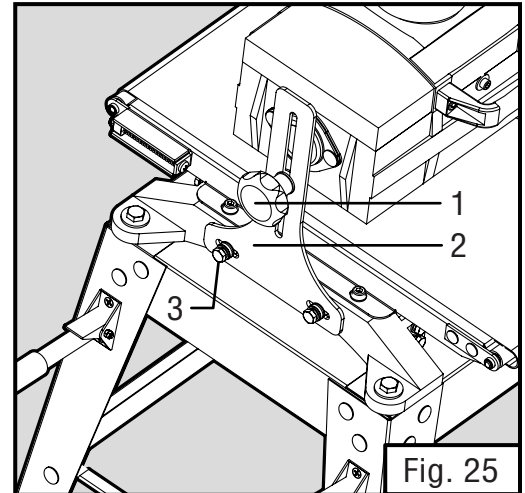

Fig. 25
## CONVEYOR FEED BELT REPLACEMENT (FIG. 25 & 26)
3. Unscrew and remove the elevation lock knob (Fig. 25 - 1) and flat washer from the side support frame (Fig. 25 - 2). Then remove the hex bolts, spacers and washers (Fig. 25 - 3) from the bottom of the side support frame. Keep all the removed fasteners in the same configuration to be reinstalled later.